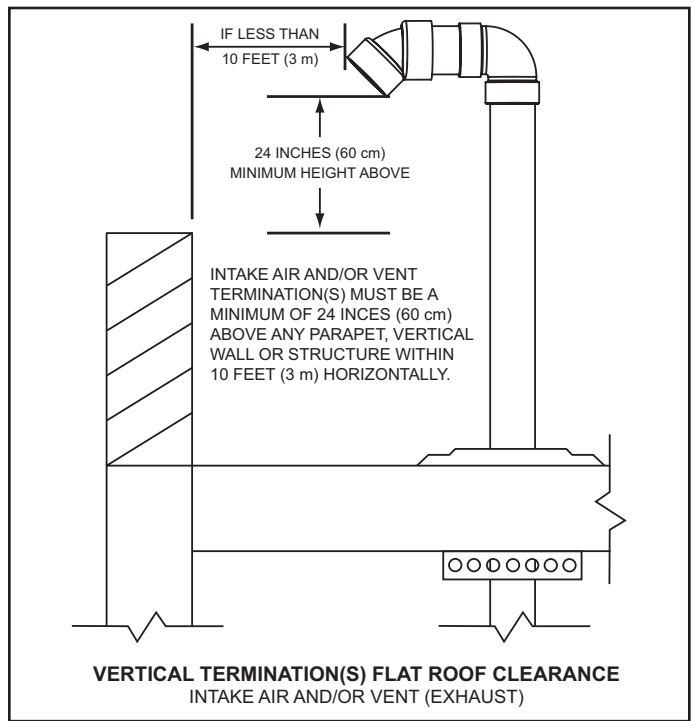
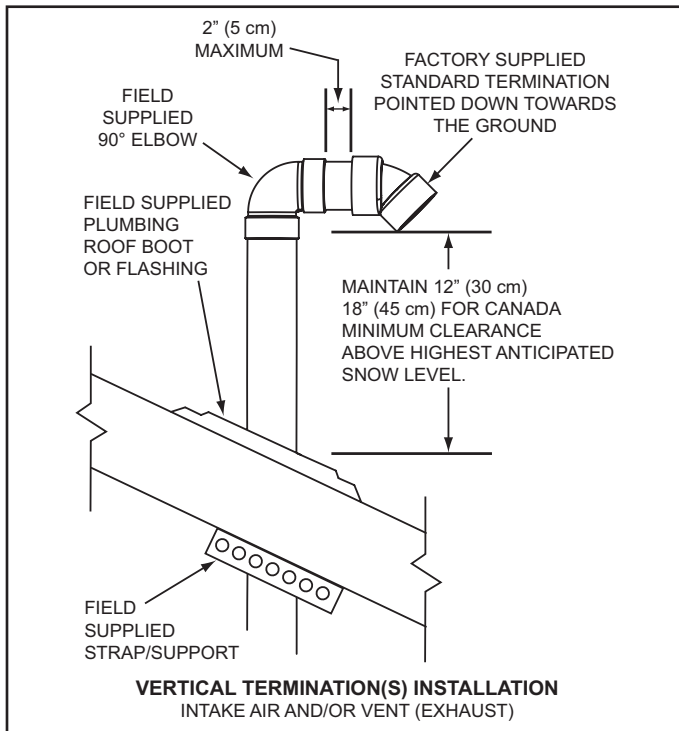
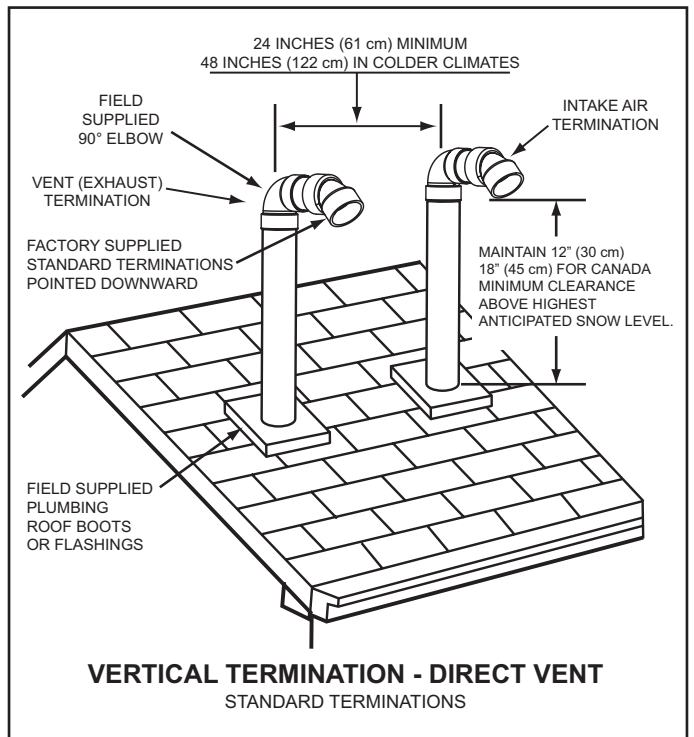

Figure 20
Figure 19
Figure 21
2. If installing only the vent (exhaust) piping in a Power Vent configuration vertically through the roof; ensure that all exterior vertical clearance requirements shown in Figure 19 and Figure 20 on page 25 are being maintained. These clearances and those cited by local and national codes must be maintained.
**NOTE:** On flat roof installations the vent termination must be a minimum of 24 inches (60 cm) above any parapet, vertical wall or structure within 10 feet (3 m) horizontally. See Figure 20 on page 25.
3. If installing both intake air and vent piping in a Direct Vent configuration vertically through the roof; ensure that all exterior vertical clearance requirements shown in Figure 20 and Figure 21 on page 25 are being maintained. These clearances and those cited by local and national codes must be maintained.
**NOTE:** On flat roof installations the intake air and the vent terminations must be a minimum of 24 inches (60 cm) above any parapet, vertical wall or structure within 10 feet (3 m) horizontally. See Figure 20 on page 25.
The vent termination must be oriented facing downward as shown in Figure 19 and Figure 20 on page 25.
The bottom edge of the vent termination must be a minimum of 12 inches (30 cm), 18 inches (45 cm) in Canada, above the average or expected snow level as shown in Figure 19 on page 25.
The intake air and vent pipes must penetrate the same side of the roof as shown in Figure 21 on page 25.
The intake air and vent terminations must be oriented facing downward and in the same direction as shown in Figure 21 on page 25.
separation of 24" (61 cm) measured on center line as shown in Figure 21 on page 25. In colder climates this separation should be increased to at least 48 inches (122 cm).
The bottom edge of the intake air and vent terminations must be a minimum of 12 inches (30 cm), 18 inches (45 cm) in Canada, above the average or expected snow level as shown in Figure 19 and Figure 21 on page 25.
The distance between the closest vent and intake air terminations must be a minimum of 24 inches (61 cm) as shown in Figure 21. In colder climates this separation should be increased to at least 48 inches (122 cm).
- Suspend the pipe(s) through center of hole using field supplied metal strapping or equivalent support materials as shown in Figure 19.
- Slide a roof boot or equivalent flashing over the pipe and secure roof boot or equivalent flashing to roof (see Figure 19) and seal around the flashing.
- Install the factory supplied intake air and/or vent termination(s) using field supplied pipe and one field supplied 90° elbow as shown in Figure 19. The short section of pipe that connects between the field supplied 90° elbow and the factory supplied termination must not be excessive in length. The exposed portion of this pipe shall be no more than 2 inches (5 cm), see Figure 19.